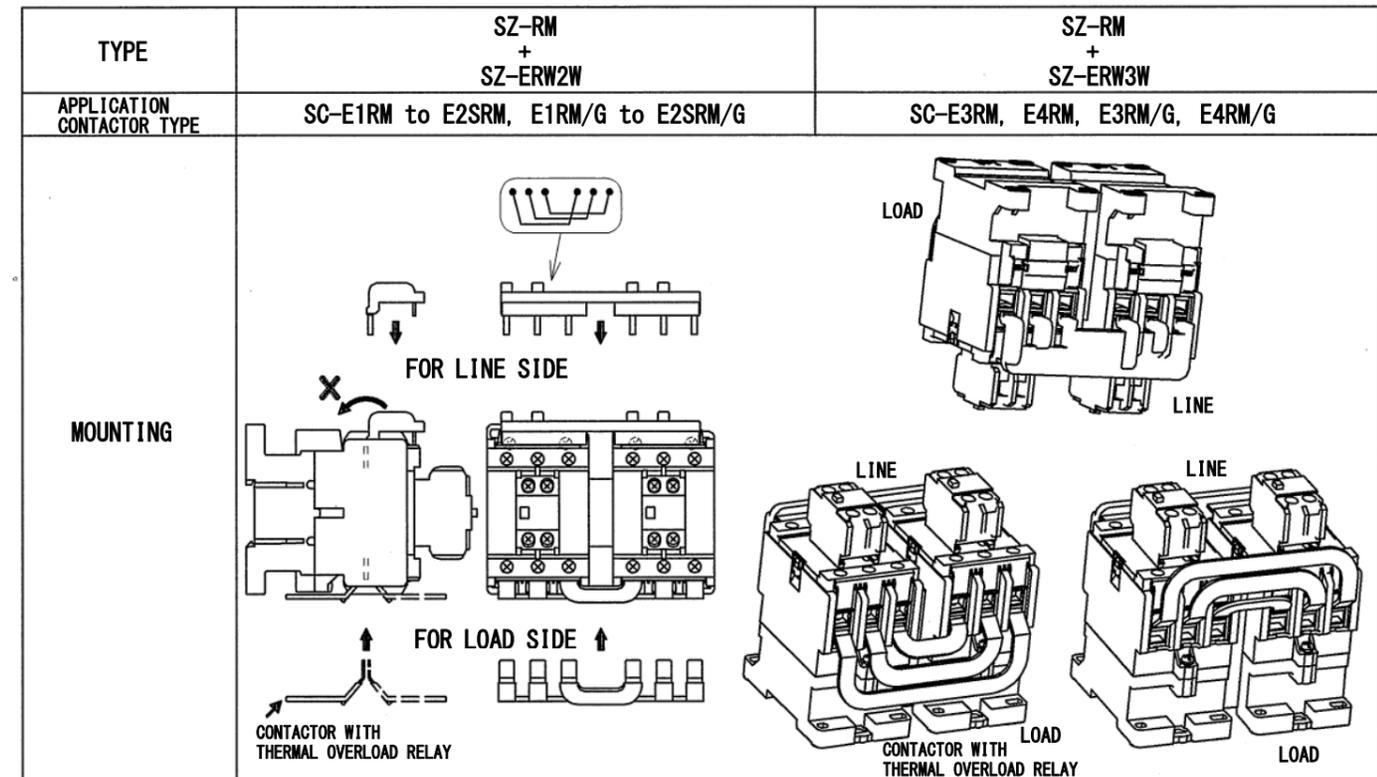

Fig. 3
- In case of using load side part of "SZ-ERW2W or SZ-ERW3W" with thermal overload, insert and connect to **back** side terminals after turning the bent side to the direction of **front** side of the contactor. In case of without thermal overload relay, it is also available turning the bent side to the direction of **back** side of the contactor and connecting to the **front** side of the contactor. (Fig.3)